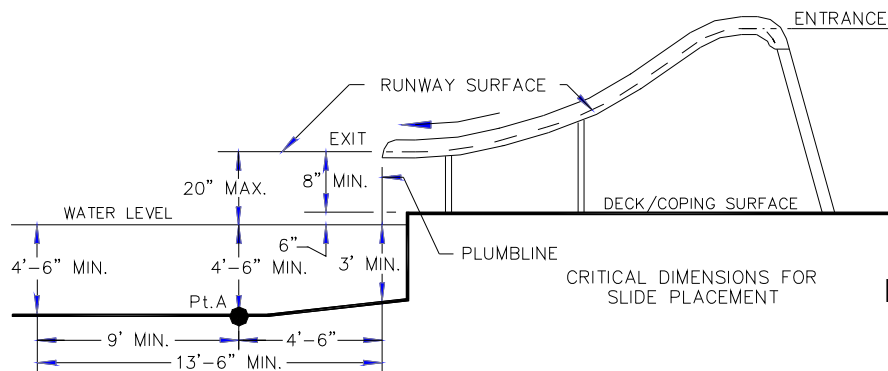

Figure 26
- 1) The critical dimensions for placement of the slide are as shown in Figures 26 and 27.
- A. The slide exit runway surface shall not exceed twenty inches (20") above the water surface and not less than eight inches (8") above the deck/coping surface (see Figure 26).
- C. The minimum depth of water below the exit lip of the slide shall be three feet (3') and increases to four feet six inches (4'-6") at Pt. A which is a distance of four feet six inches (4'-6") from the exit lip of the slide. (See Figure 26).
- D. A minimum depth of four feet six inches (4'-6") shall be maintained at a distance of nine feet (9') along the extended centerline of the slide from Pt.A. (See Figure 26).
- 7) Observe the position of the exit of the slide as shown in Figures 26, 27 and 28 on pages 18 and 19.